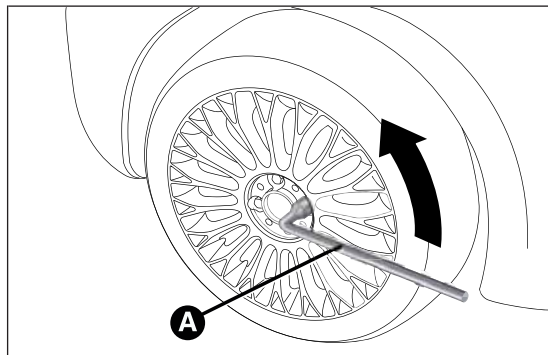

fig. 117
- ❑ take the wrench A fig. 117 and loosen the fixing bolts by about one turn. For versions with alloy rims, shake the car to facilitate detachment of the rim from the wheel hub.
- ❑ take the wrench A fig. 117 and fully tighten the fixing bolts;